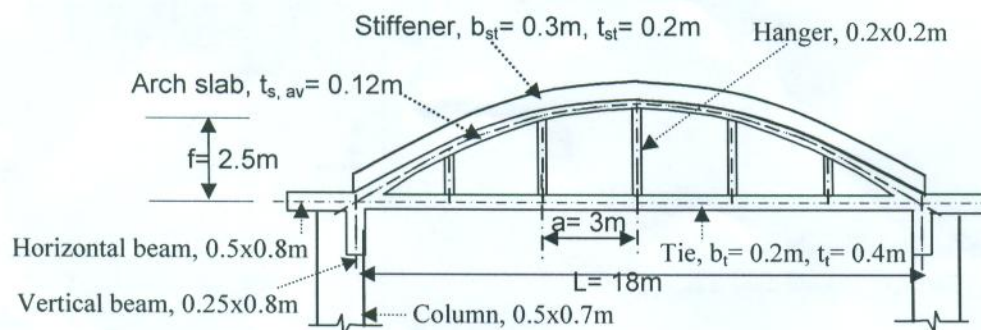

Fig. 2
- Fig. 2 shows a sectional elevation of an arched slab supported on columns spaced, $S = 5\text{m}$. The concrete dimensions of the arched slab elements are given in the figure. Consider the following loads of the slab: dead load, $g = 5\text{kN/m}^2$, live load, $p = 1.5\text{kN/m}^2$. It is required to carry out the following: